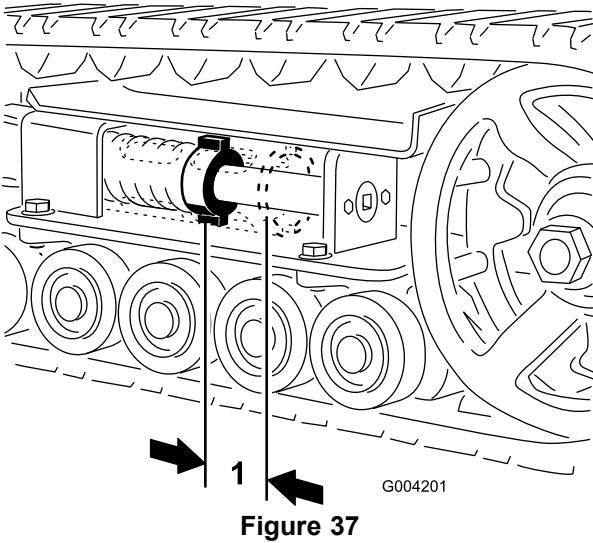
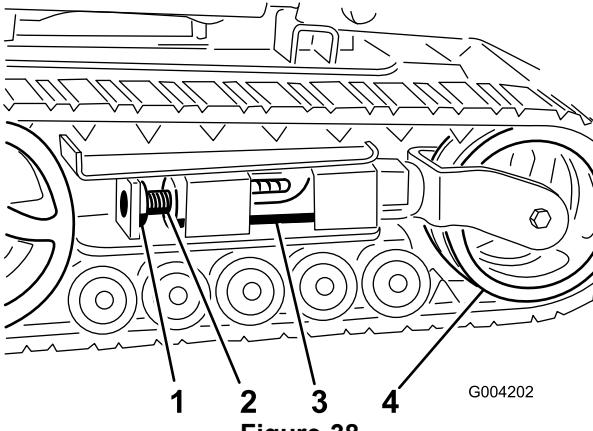
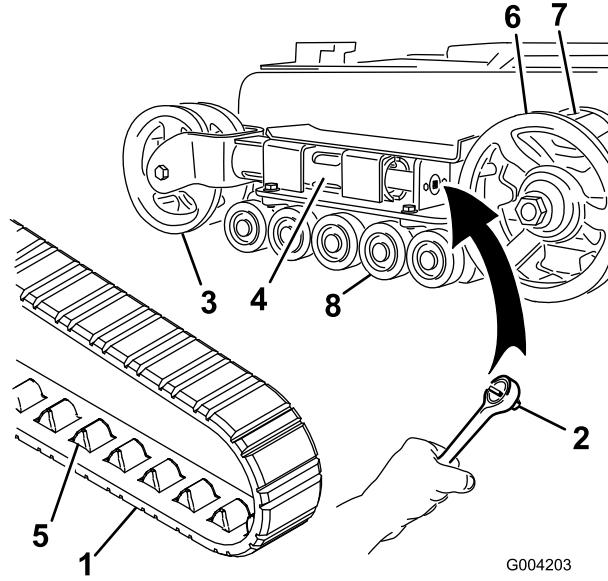
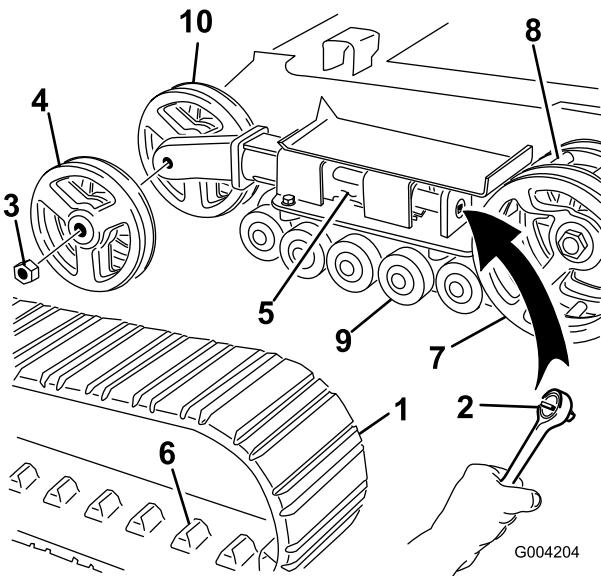

Figure 37
Figure 38
Figure 39
Figure 40
Check and adjust the track tension after the first 50 operating hours and every 100 operating hours thereafter. There should be 2-3/4 inches (7 cm) between the tension nut and the back of the tension tube (Figure 37). If not, adjust the track tension using the following procedure:
3. Remove the locking bolt and nut (Figure 38).
4. Using a 1/2 inch drive socket (Figure 39), turn the tensioning screw counter-clockwise until the distance between the tension nut and the back of the tension tube (Figure 37) is 2-3/4 inches (7 cm).
5. Align the closest notch in the tension screw to the locking bolt hole and secure the screw with the locking bolt and nut (Figure 38).
4. Using a 1/2 inch drive socket, release the drive tension by turning the tensioning screw clockwise (Figure 38 and Figure 39).
5. Push the tension wheel toward the rear of the unit to move the fork tube against the frame (Figure 39). (If it does not touch the frame, continue turning the tensioning screw until it does.)
7. When the track is off of the tension wheel, remove it from the drive sprocket and road wheels (Figure 39).
8. Beginning at the drive sprocket, coil the new track around the sprocket, ensuring that the lugs on the track fit between the spacers on the sprocket (Figure 39).
9. Push the track under and between the road wheels (Figure 39).
11. Turn the tensioning screw counter-clockwise until the distance between the tension nut and the back of the fork tube (Figure 37) is 2-3/4 inches (7 cm).
4. Using a 1/2 inch drive socket, release the drive tension by turning the tensioning screw clockwise (Figure 38 and Figure 40).
6. Remove the nut securing the outer tension wheel and remove the wheel (Figure 40).
7. Remove the track (Figure 40).
8. Remove the nut securing the inner tension wheel and remove the wheel (Figure 40).
12. Install the inner tension wheel and secure it with the nut removed previously (Figure 40).
14. Install the new track, ensuring that the lugs in the track fit between the spacers in the middle of the drive sprocket (Figure 40).
15. Install the outer tension wheel and secure it with the nut removed previously (Figure 40).
17. Turn the tensioning screw counter-clockwise until the distance between the tension nut and the back of the tension tube (Figure 37) is 2-3/4 inches (7 cm).
5. Push the tension wheel toward the rear of the unit to move the tension tube against the frame (Figure 40). (If it does not touch the frame, continue turning the tensioning screw until it does.)